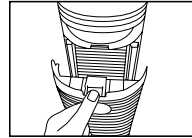

Fig. 10
6. Place the tabs at the bottom of the grill plate into the base of the unit. Gently push the grill plate back into place until you hear a click sound indicating that the grill is firmly latched. Fig. 10